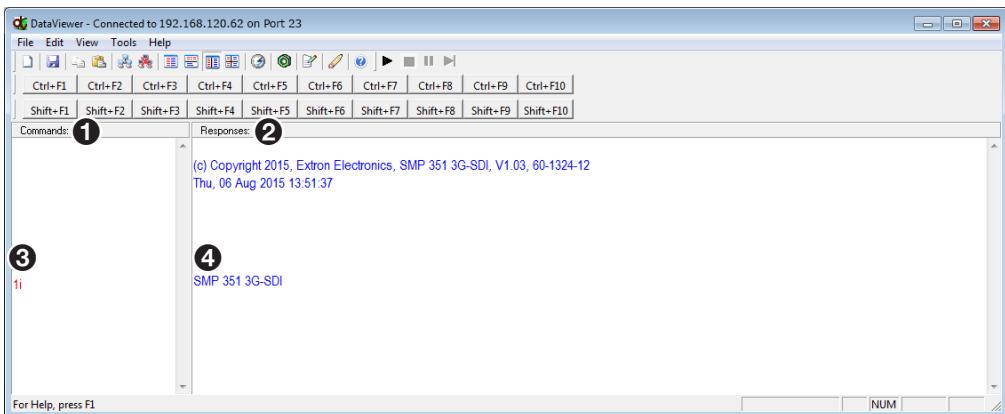

Figure 96. Enter Commands and View Responses
The main **DataViewer** dialog opens and the SMP 300 Series responds with a copyright statement containing the model number, part number, and current firmware version of the connected SMP 300 Series, along with the date (see figure 96, ②).
5. Use the **Commands** field to enter SIS commands (see figure 96, ①). View the responses in the **Responses** field (②).